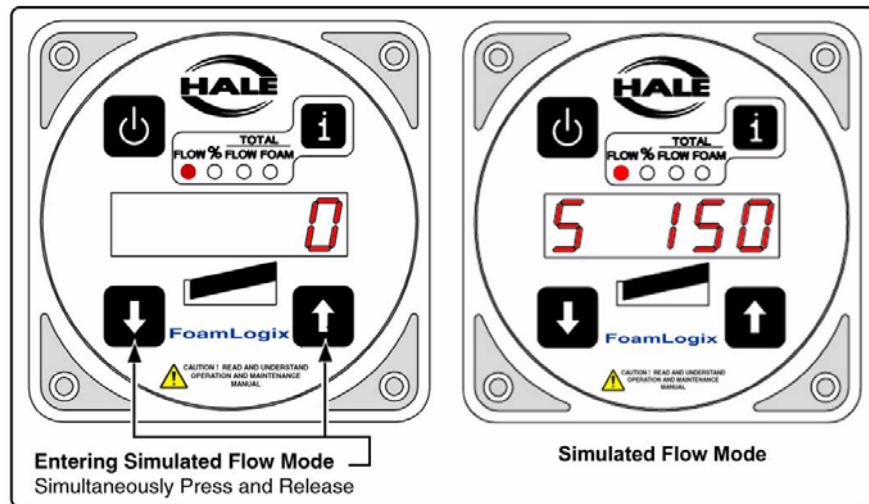

Figure 3-44: Simulated Flow Mode Display
6. Place the system in simulated flow mode by selecting the **FLOW** display and pressing both **↑** and **↓** buttons simultaneously. Set simulated flow value to 100 GPM by pressing the **↑** or **↓** buttons. (See Figure 3-44: "Simulated Flow Mode Display.")